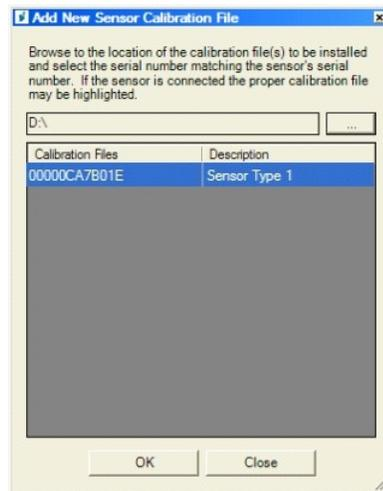

Figure 84
10. The Navigation Window will close and the Progeny Sensor Serial Number will now appear in your New Sensor Calibration File Screen (see Figure 84 on page 54).
11. Click OK (see Figure 84 on page 54).